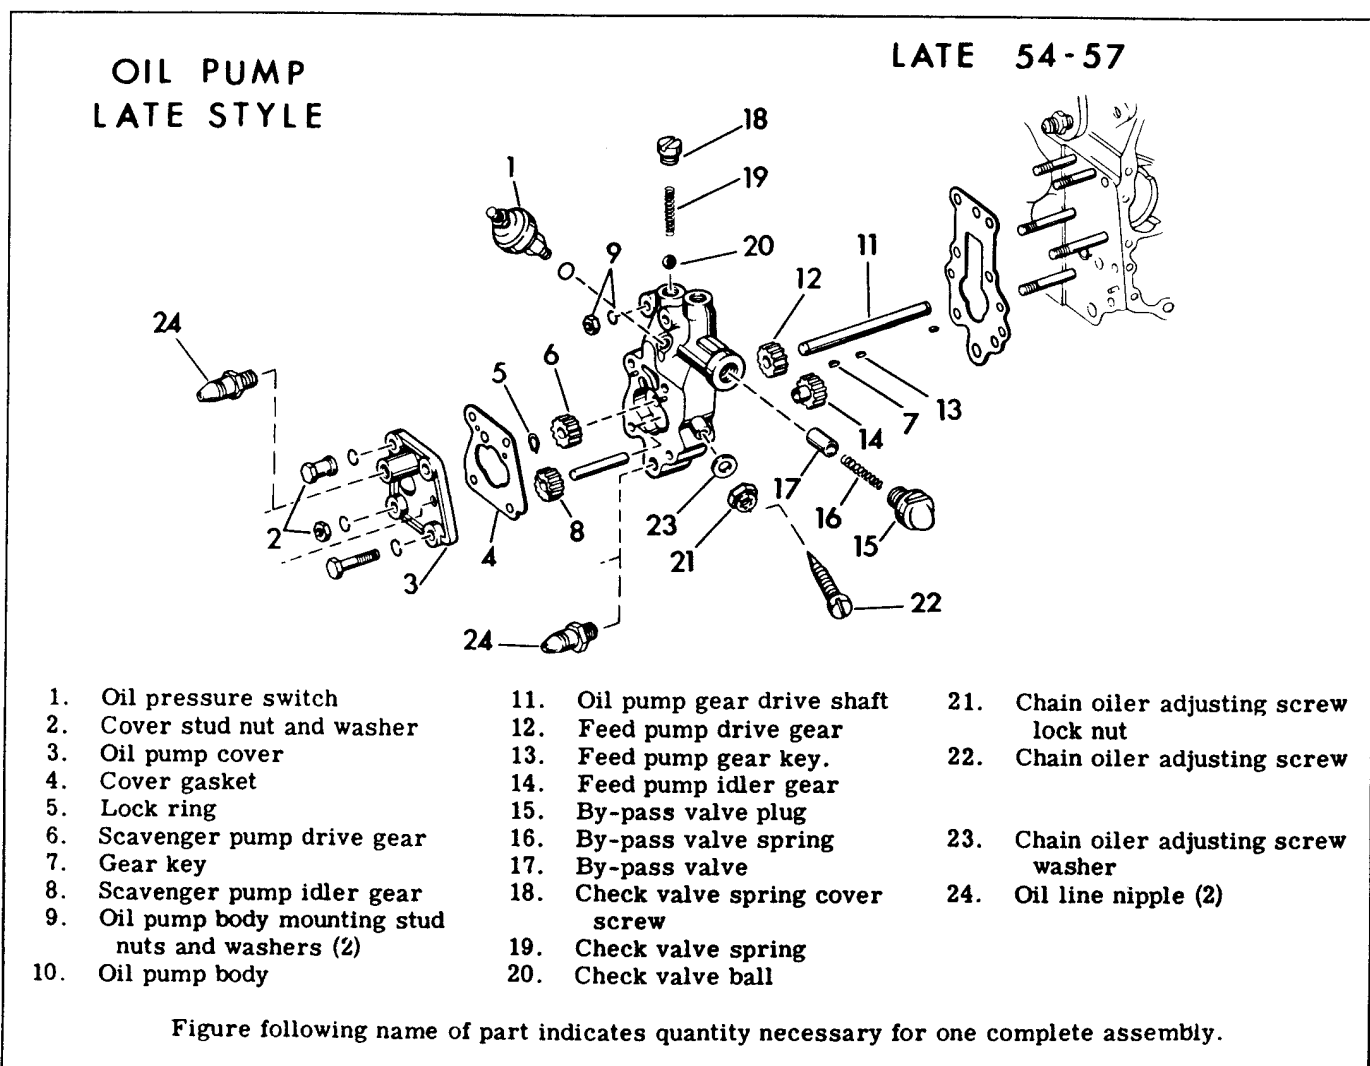

Figure 3D-1. Oil Pump - Exploded View
DISASSEMBLING OIL PUMP (Fig. 3D-1)
Disconnect oil lines and oil pressure switch (1) from pump. See Fig. 3D-1A. Remove four nuts and washers (2) from gearcase studs, that hold oil pump cover in place. Remove oil pump cover (3) and gasket (4). Remove lock ring (5), scavenger pump drive gear (6), gear key (7) and scavenger pump idler gear (8). Remove two oil pump body mounting stud nuts (9) and slip pump body (10) off studs and gear drive shaft (11). Remove oil feed pump drive gear (12), key (13) and idler gear (14).